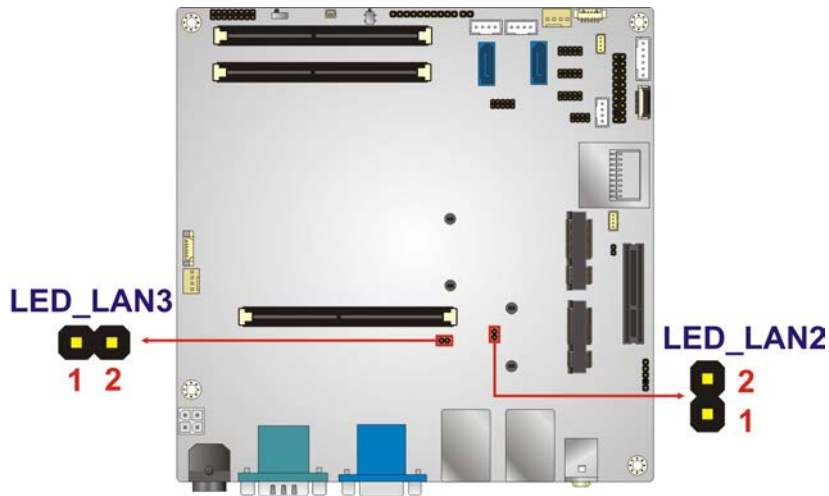

Figure 3-15: LAN LED Connector Location
- CN Location:** See **Figure 3-15**